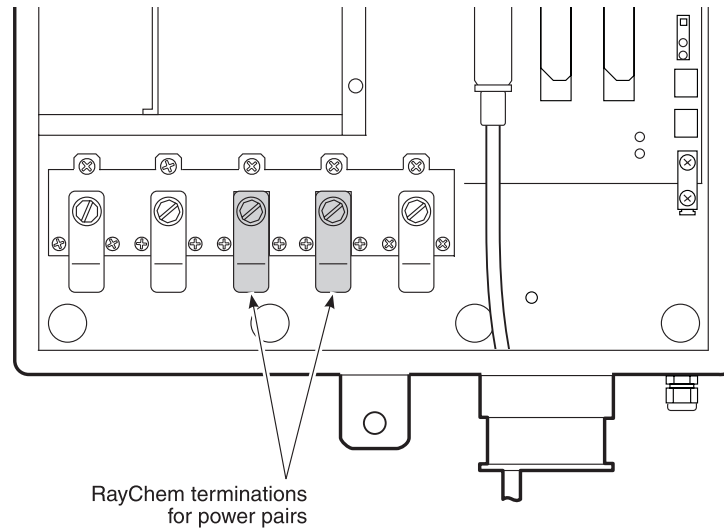
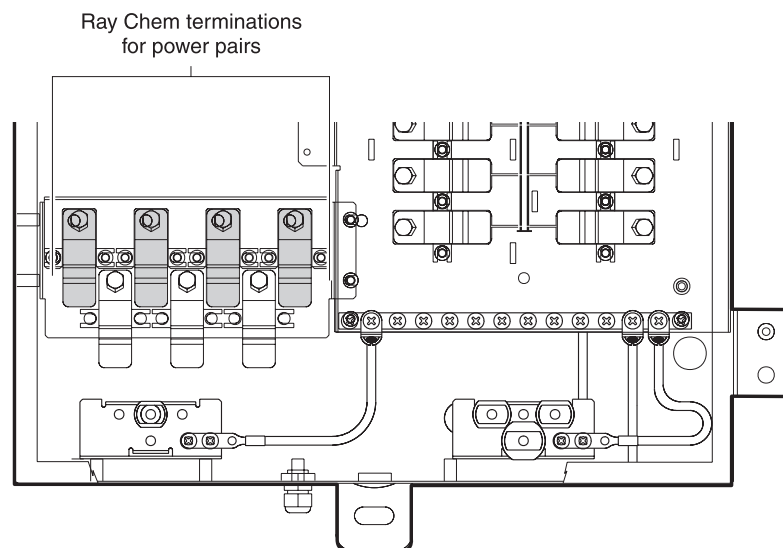

Figure 20. *Installing Power Pairs (List 4G)*
Figure 21. *Installing Power Pairs (List 4H)*
For the FRE-765 Lists 4G (refer to Figure 20) and 4H (refer to Figure 21), connect the auxiliary power pairs as follows:
- 2 Terminate the power pairs on the RayChem terminations per Figure 21.